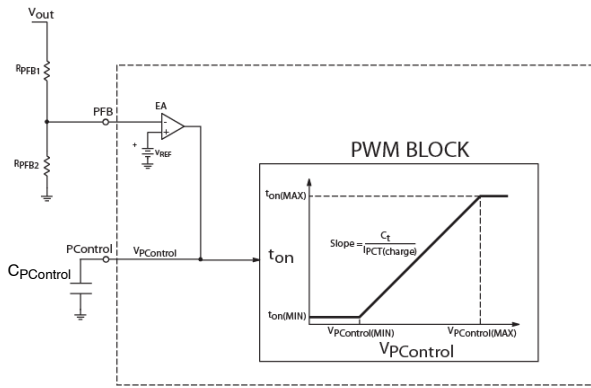

Figure 19. Error Amplifier and On Time Regulation Circuits
The NCP1927 error amplifier (EA) consists of an operational transconductance amplifier (OTA) with the inverting input connected to the PFB pin and the output connected to the PControl pin to regulate the output voltage. It features a typical transconductance (gm) of $200 \mu S$ and a maximum output ($I_{EA(SRC)}$ and $I_{EA(SNK)}$) of $\pm 20 \mu A$ (typical). The non-inverting input is connected internally to a voltage reference (V_{REF}) with a typical value of $2.5 V \pm 1.5\%$ over process and temperature. During normal operation, the voltage on the PControl pin varies between $V_{PControl(MIN)}$ (typically $0.6 V$) and $V_{PControl(MAX)}$ (typically $5.6 V$). A simplified diagram of the OTA circuit is shown in Figure 19.
This creates a ripple on the output with frequency equal to twice the line frequency (f_{line}). Since the on time must remain constant during each ac line cycle to maintain good power factor correction, the EA must reject the output ripple. This is commonly achieved by setting the regulation bandwidth below 20 Hz. A type 1 compensation network is typically used for simplicity, as it only requires a single capacitor ($C_{PControl}$) connected between the PControl pin and ground (see Figure 19). For a type 1 network, $C_{PControl}$ is calculated using Equation 10.